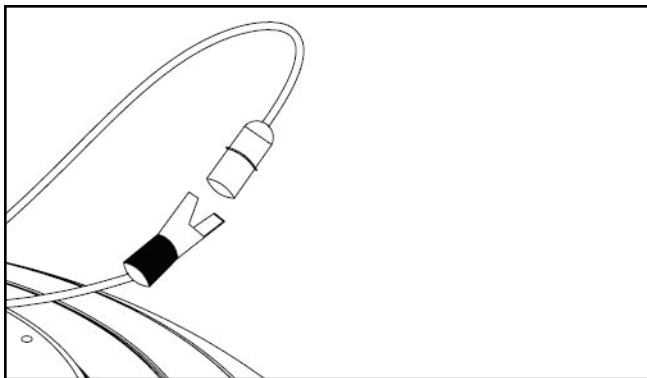

Figure 2.
2. Connect battery pack charging circuit. (Figure 2)